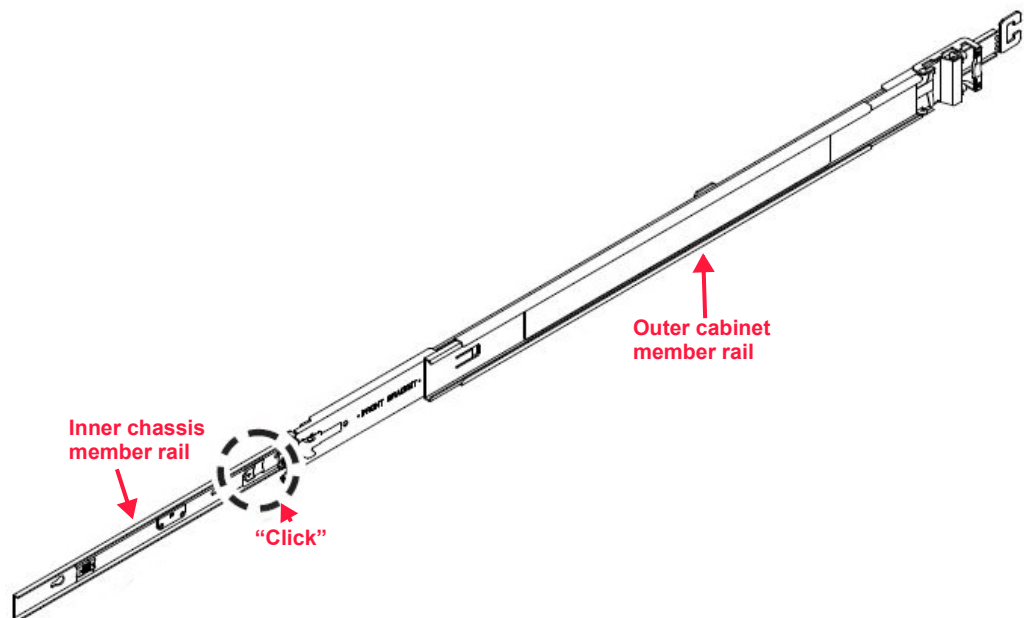

Figure 2.11 Removing the inner rail
1. Slide the inner chassis member rail out from the outer cabinet member rail until there is an audible click. The rail locks in the serviceable position as shown in Figure 2.11.